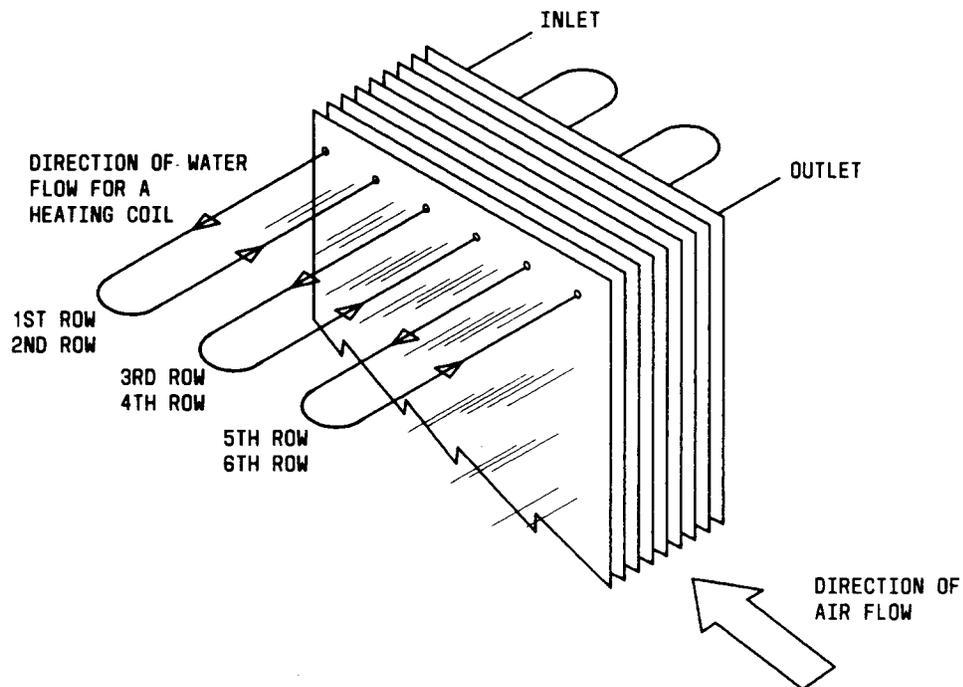

Fig. 1—Cutaway View of 6 Row Coil
3.02 Water coils are used for either cooling or heating and should be installed so that the coldest water will encounter the coldest air for cooling. In the case of heating, the hottest water should encounter the hottest air. This method of installation is commonly referred to as "counter flow." (See Fig. 1.)